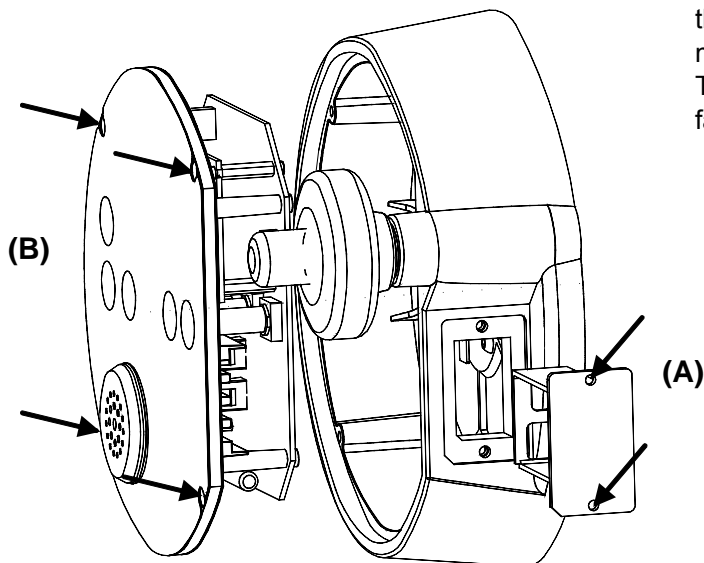

Figure 10-11
- Unscrew with the 2.5 Allen key the 2 screws (A) of the battery holder and pull it out as shown on Figure 10-11.
- Unscrew with the 2.5 Allen key the 4 screws (B) of the display unit and pull it gently out of the electronic box, as shown on Figure 10-11.
- Put back the new display unit in the electronic box; tighten the 4 screws (B) of Figure 10-11.
- Reinstall the battery holder with the 2 screws (A) of Figure 10-11. Refer to Figure 10-4 page 38.
- if the equipment (Q2) removed on Figure 10-11;